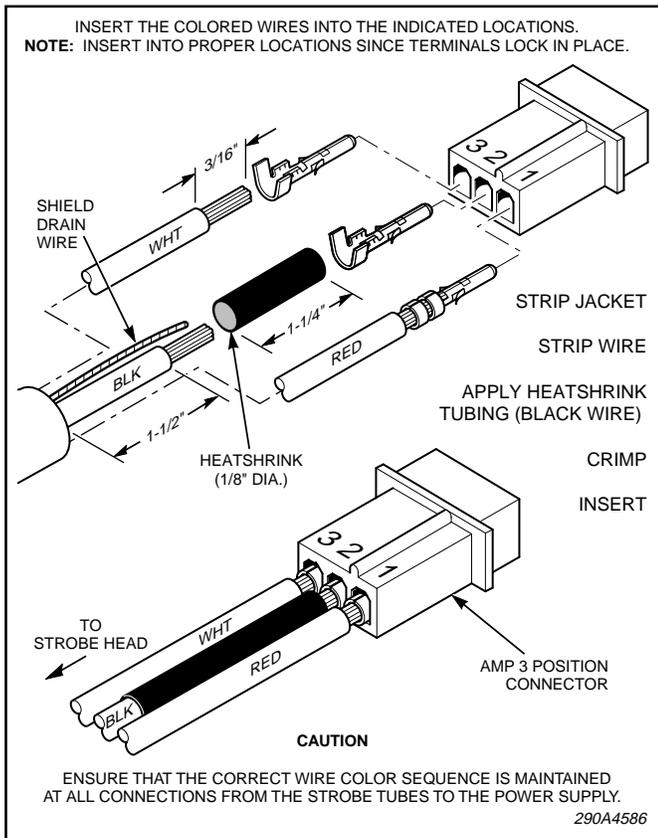

Figure 1.
4. *Power Supply Cable End. (See figure 1.)*